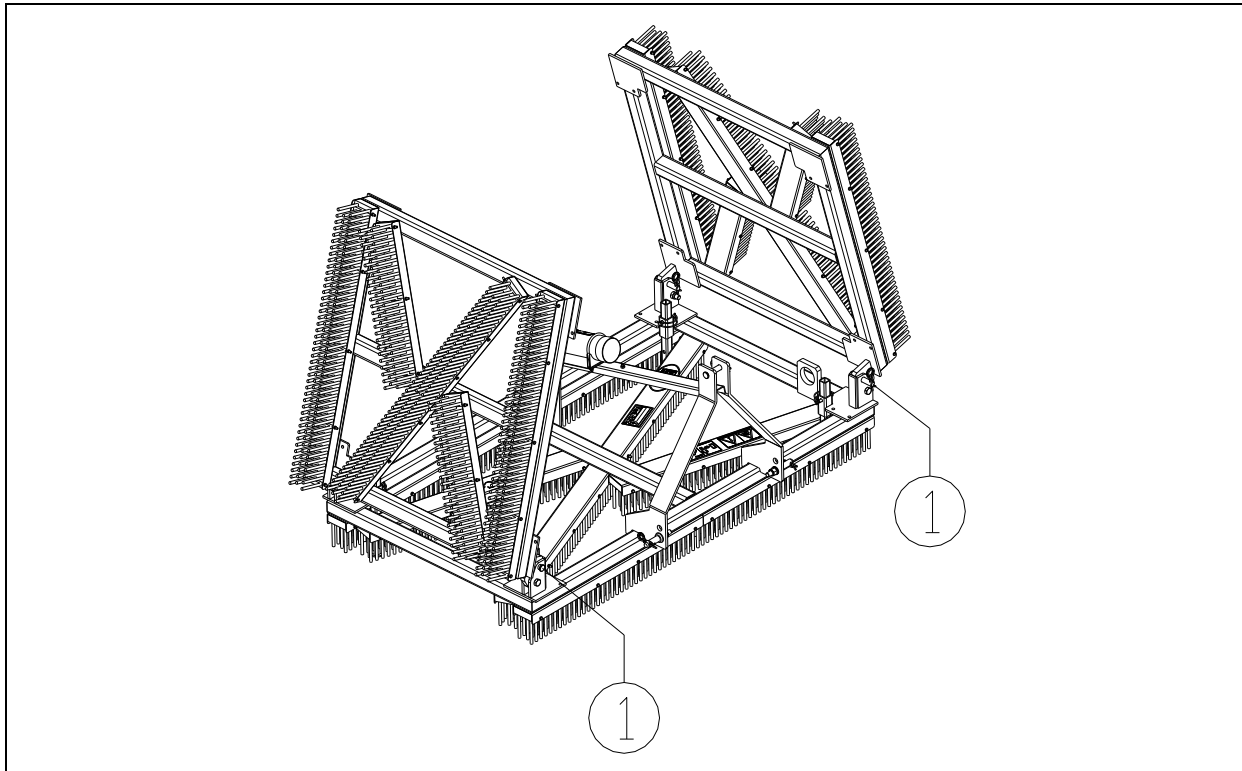

Figure 8
⚠ Always transport the Verti-Comb with the side-panels folded! Secure the locking mechanism (1) with the locking pin (see Figure 8).